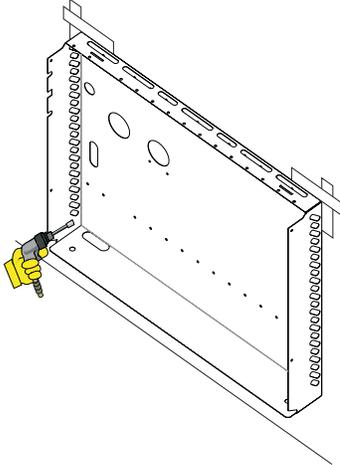

Figure 3
- After creating your venting holes (see wall furnace installation instructions), secure the wall mount shroud to the wall studs using four #10 x 1 1/4" screws provided with the wall furnace. Heavier field supplied lag screws may be used if desired. **See Figure 3.** Verify the shroud is level.